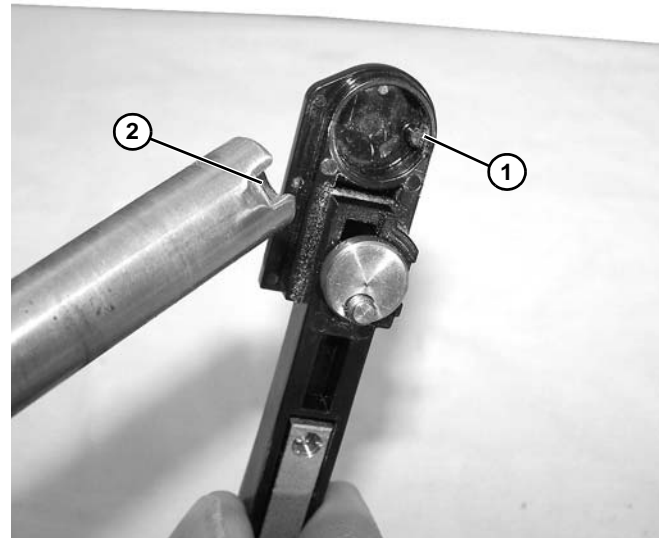

Figure 43
1. Install tail plate assembly with notch (**Figure 43, item 1**) in tail plate matching with slotted portion (**Figure 43, item 2**) of shaft.